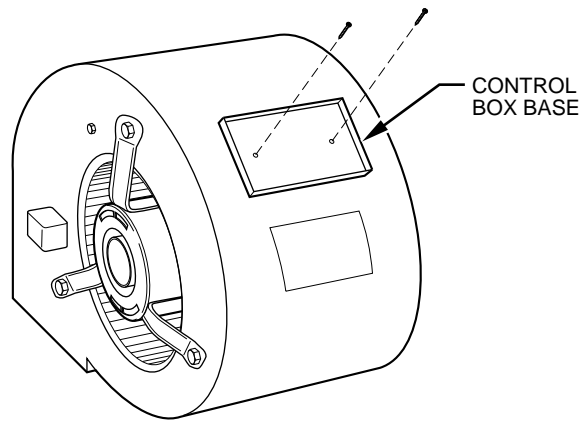

Fig. 12—Repositioning Control Box Base for 3500 Furnaces
2. Reposition control box base to curved edge of blower housing aligning holes in control box base with holes in blower housing. (See Fig. 12.)
3. Secure control box base to blower housing with 2 screws previously removed. (See Fig. 12.)